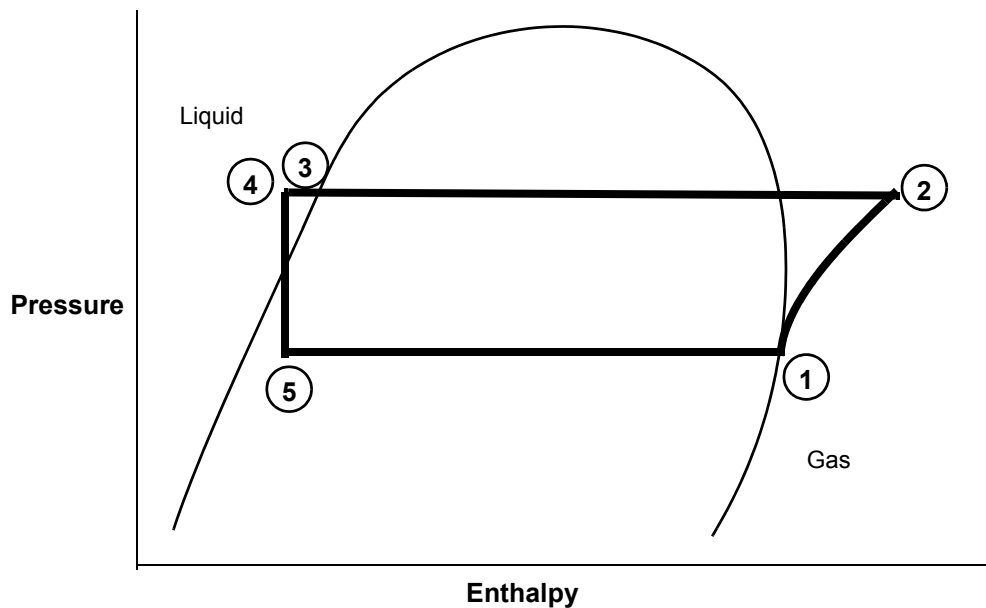
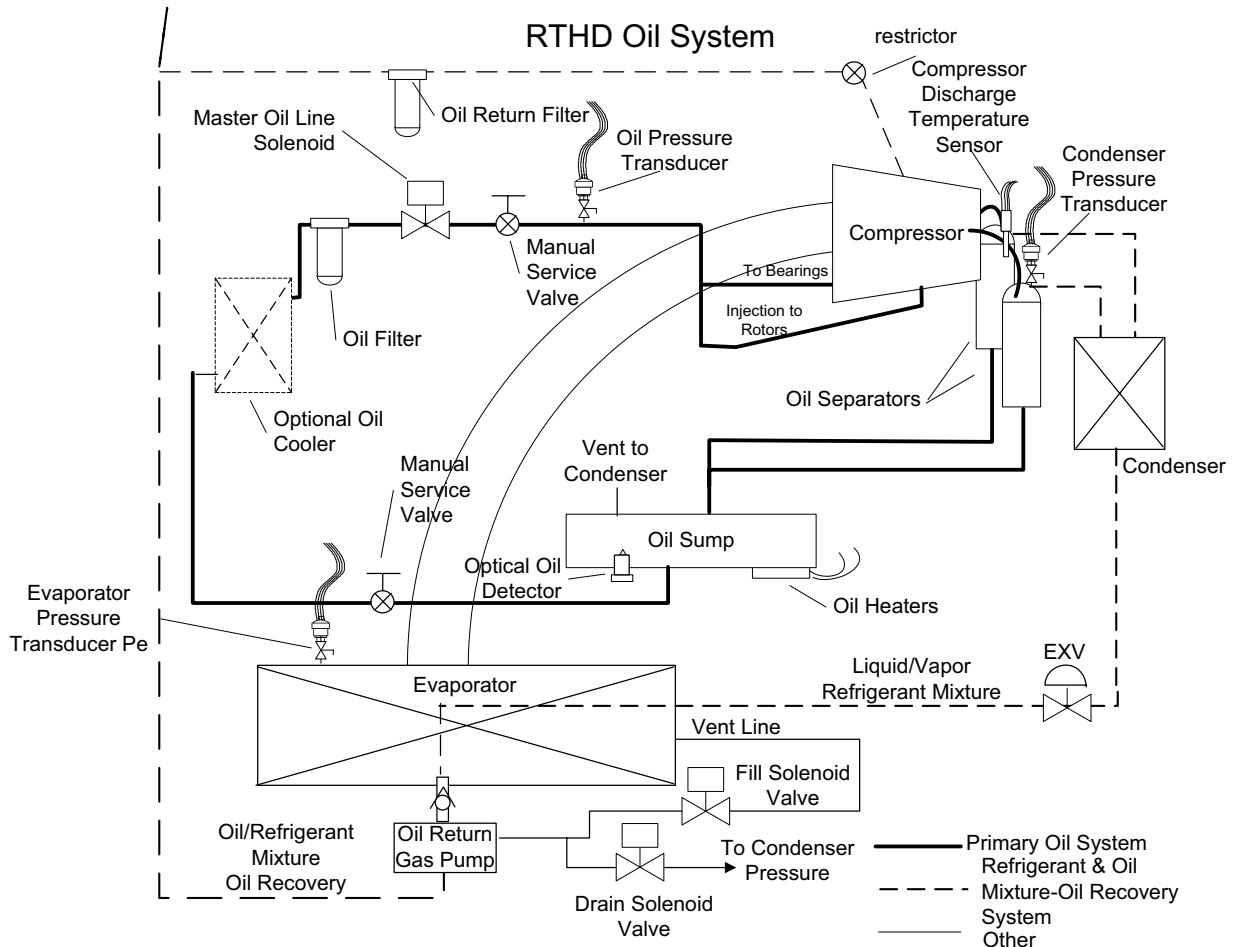

Figure 22 Pressure /Enthalpy Curve
Figure 25 Oil Flow Diagram
The refrigeration cycle for the RTHD chiller can be described using the pressure-enthalpy diagram shown in Figure 22. Key State Points are indicated on the figure and are referenced in the discussion following. A schematic of the system showing the refrigerant flow loop as well as the lubricant flow loop is shown in Figure 25.
Oil flowing through the lubrication circuit flows from the oil sump to the compressor (see Figure 25). As the oil leaves the sump, it passes through a service valve, an oil cooler (if used), oil filter, master solenoid valve, and another service valve. Oil flow then splits into two distinct paths, each performing a separate function: (1) bearing lubrication and cooling, and (2) compressor oil injection.